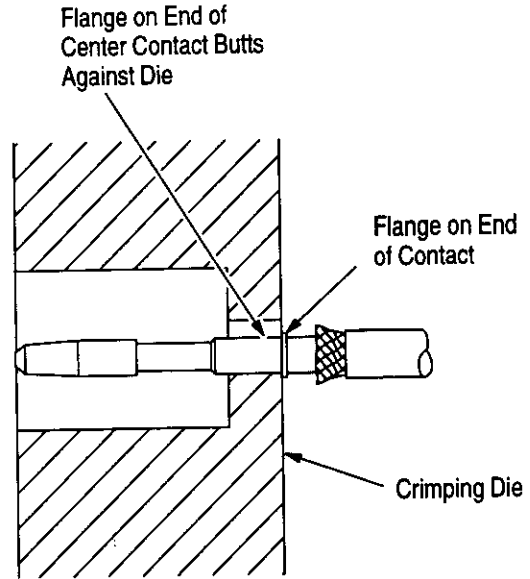

Figure 3
**NOTE** *Make sure that the flange on the end of the center contact butts against the crimping die. See Figure 3.*